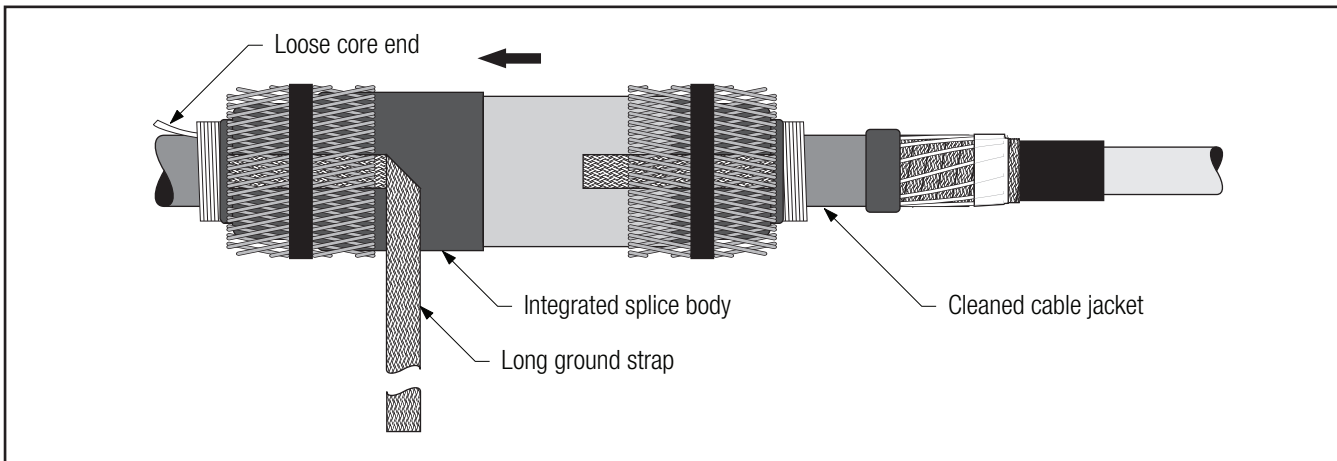

Figure 6
- 2.10 Slide integrated splice body onto clean cable jacket, ensuring that the long ground strap is on the side of the splice where the external grounding will be located (*Figure 6*). The ground strap may or may not be covered with heat shrink.